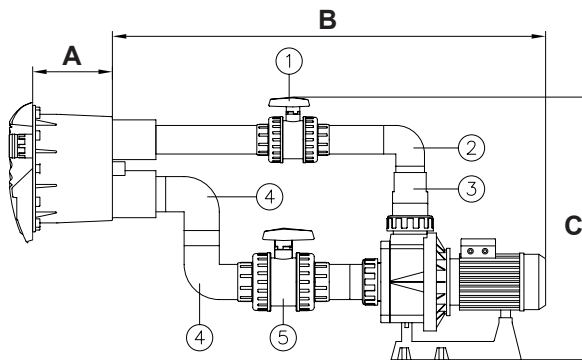

Fig. 7
- Glue a Ø 75 mm. pipe (*) to the discharge mouth of the niche (see fig. 7).
- Glue the Ø 75mm. valve (no.1, fig. 7) to the Ø 75mm. pipe (*).
- Glue a Ø 75mm. pipe (*) to the Ø 75mm valve (no.1, fig. 7).
- Glue the Ø 75mm. elbow (no.2, fig. 7) to the Ø 75mm. pipe (*).
- Glue a Ø 75mm. pipe (*) two the elbow (no.2, fig.7).
- Glue a 90/75/63 mm. conical reducer (no.3, fig. 7) to the Ø 75mm (no.2, fig. 7) and the Ø 90mm. connector on the pump.
- Using a Ø 90mm. pipe (*), glue a Ø 90 mm. elbow (no.4, fig. 7) on to the suction mouth on the niche (see fig. 7).
- Using a Ø 90mm. pipe (*) joint the other Ø 90mm. elbow (no.4, fig. 7) to the elbow already glued (see fig. 7).
- Glue the Ø 90mm. valve (no.5, fig. 7) to the elbow (no.4, fig. 7) using a Ø 90 mm. pipe (*) to join them.
- Glue a Ø 90 mm. pipe (*) to the valve (no.5, fig.7) and to the Ø 90mm.connector on the pump.